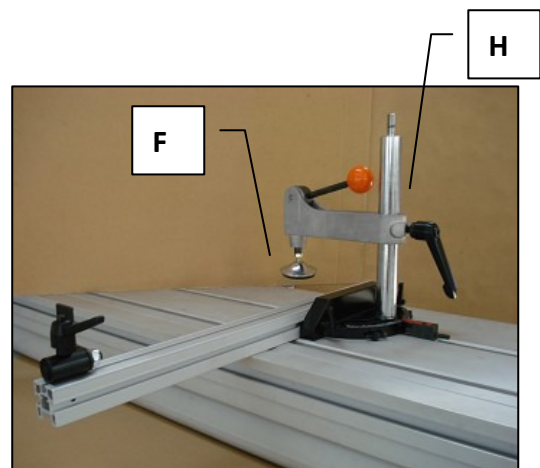

Figure 4-6.2
2. By means of lever **H**(Fig. 4-6.2) lower foot **F**(Fig. 4-6.2) for clamping the work piece